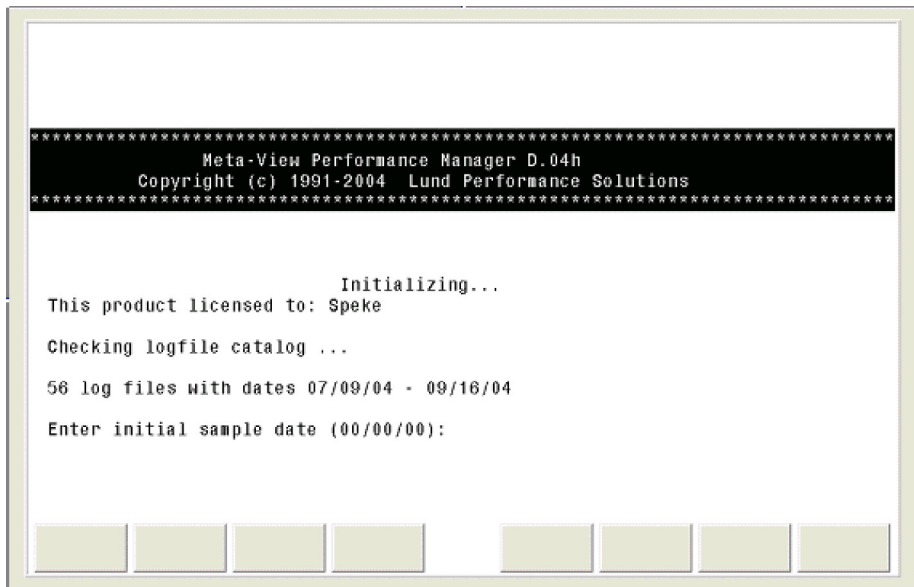

Figure 4.2 *MVLOGX Initial Screen*
- 1 From your home directory, enter **mvlogx** (lowercase) at the prompt. The initial MVLOGX screen will display (see Figure 4.2)